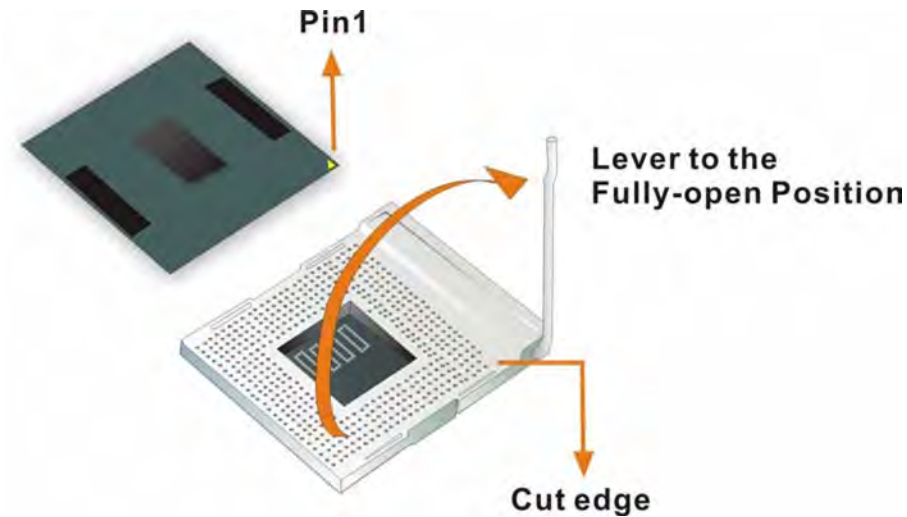

Figure 4-1: Lock the CPU Socket Retention Screw
- Step 3:** **Insert the CPU.** To insert the CPU into the socket, first open the lever on the side of the CPU socket (See **Figure 4-1**) and then follow the instructions below: